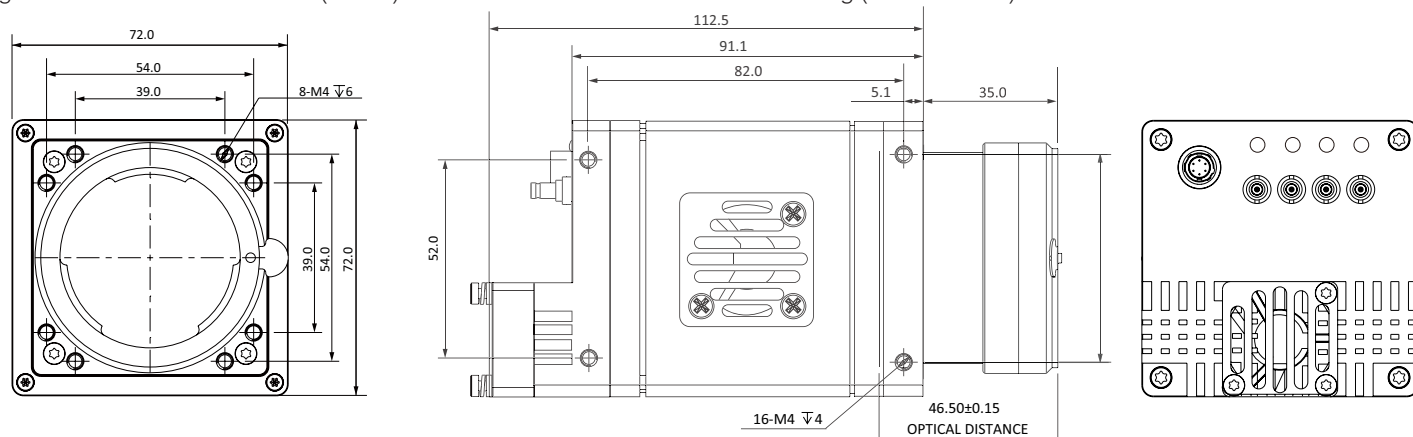

Fig. 1-9: Mechanical Dimensions (in mm) for Cameras with 72 \* 72 \* 91.1mm housing (F interface).
- Fig. 1-9: Mechanical Dimensions (in mm) for Cameras with  $72 \times 72 \times 91.1$ mm housing (F interface).